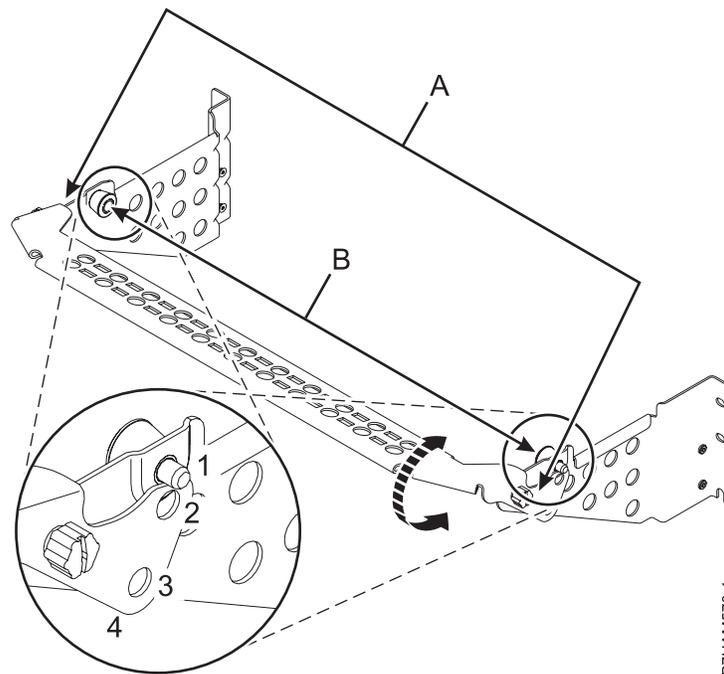

Figure 10. Positions of the cable management bracket rotation
- Use the cable management bracket to secure the 58/02 or 58/77 expansion unit to the rack if you intend to provide extensive organization for the cables and cords connecting to the expansion unit. The cable management bracket contains a shelf that rotates into the following positions, as shown in Figure 10.
- The shelf is rotated up to the highest position (1) to permit service of the 58/02 or 58/77 expansion unit. Since this position requires that the top edge of the shelf side brackets (A) be rotated fully below the plungers on the stationary arms (B), the shelf is not locked in this position.
- The shelf is rotated to a level position (2) when no hardware service is being performed on the 58/02 or 58/77 expansion unit or adjacent hardware. The shelf side brackets (A) contain holes into which the plungers on the stationary arms (B) are inserted, enabling the shelf to lock in this position.
- The shelf is rotated down to the next lower position (3) to permit service of hardware installed in the space directly above the 58/02 or 58/77 expansion unit. The shelf side brackets (A) contain holes into which the plungers on the stationary arms (B) are inserted, enabling the shelf to lock in this position.
- The shelf is rotated down to the lowest position (4) if additional clearance space is needed to close the rear door of the rack. Since this position requires that the bottom edge of the shelf side brackets (A) be rotated fully above the plungers on the stationary arms (B), the shelf is not locked in this position.